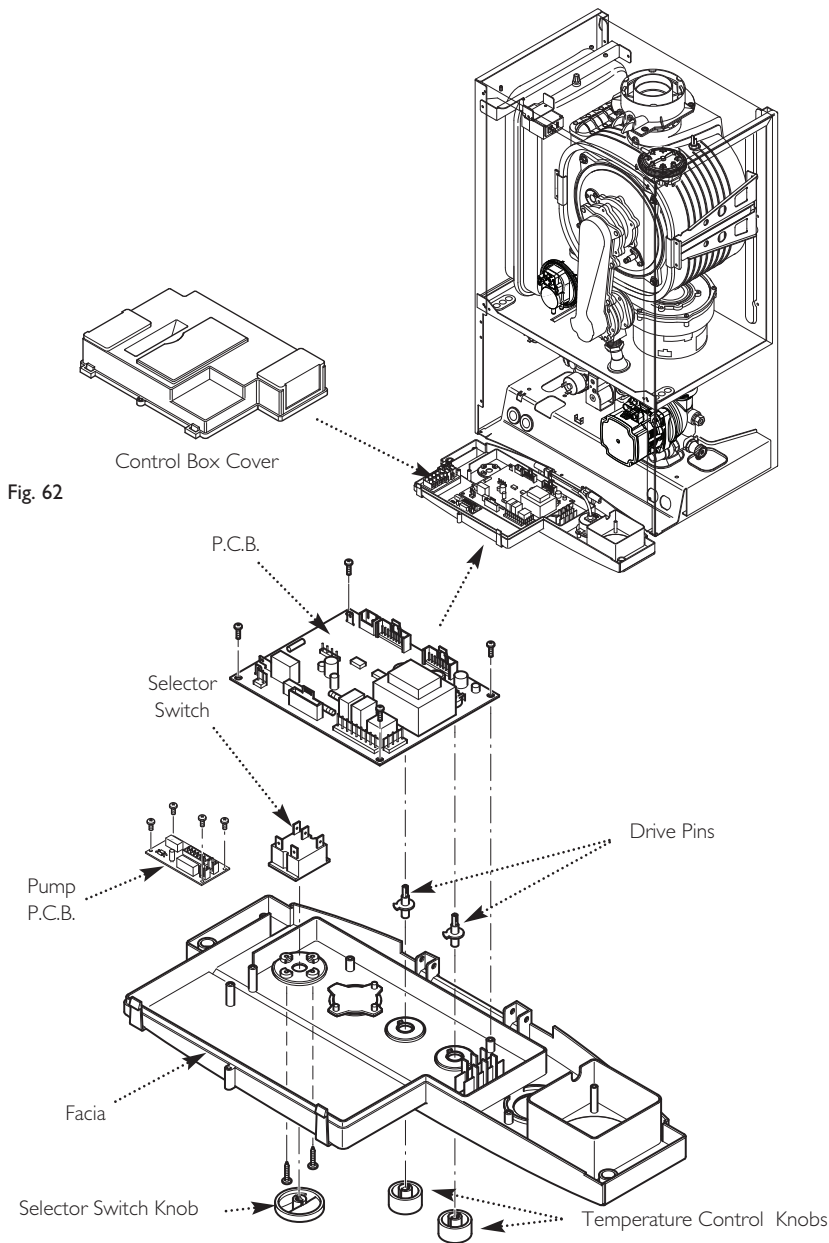

Fig. 63
13.20 Pump P.C.B. (Fig. 63)
13.21 Selector Switch (Fig. 63)